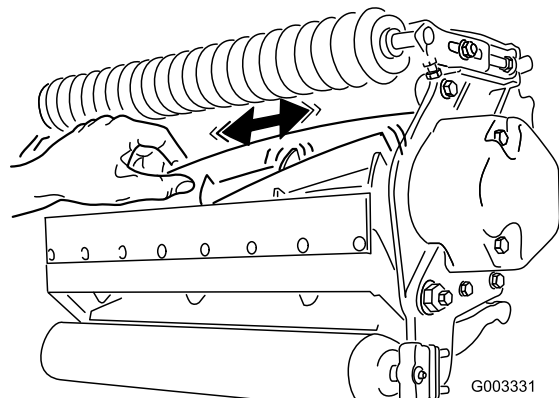

Figure 30
2. Using a rag or thickly padded glove, hold on to the reel blade and try to move the reel assembly side to side (Figure 30).